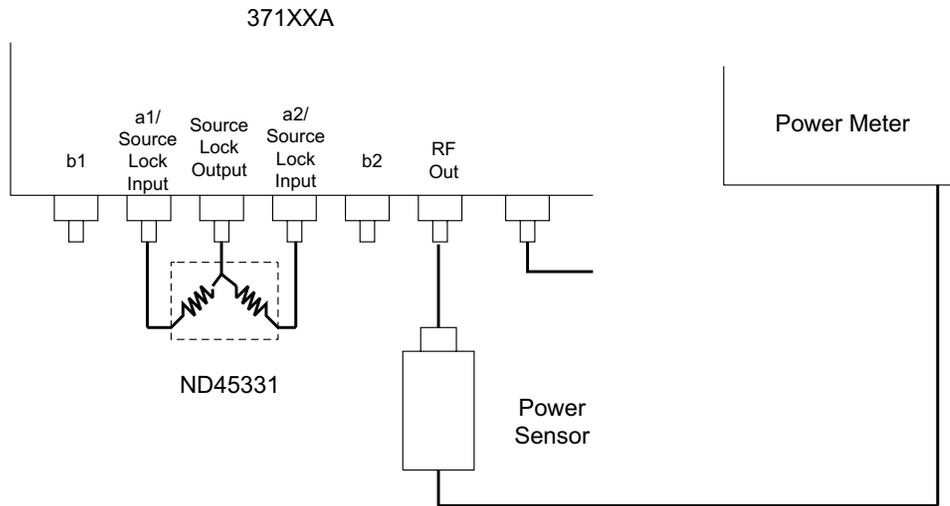

Figure 4-2. Source Power Level Setup
- Step 1.** Set up the equipment per Figure 4-2. Do not connect the Power Sensor to RF Out at this time.